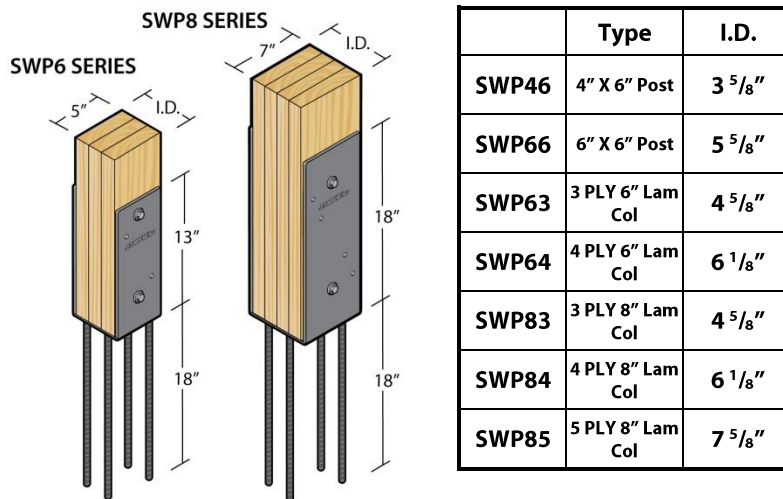
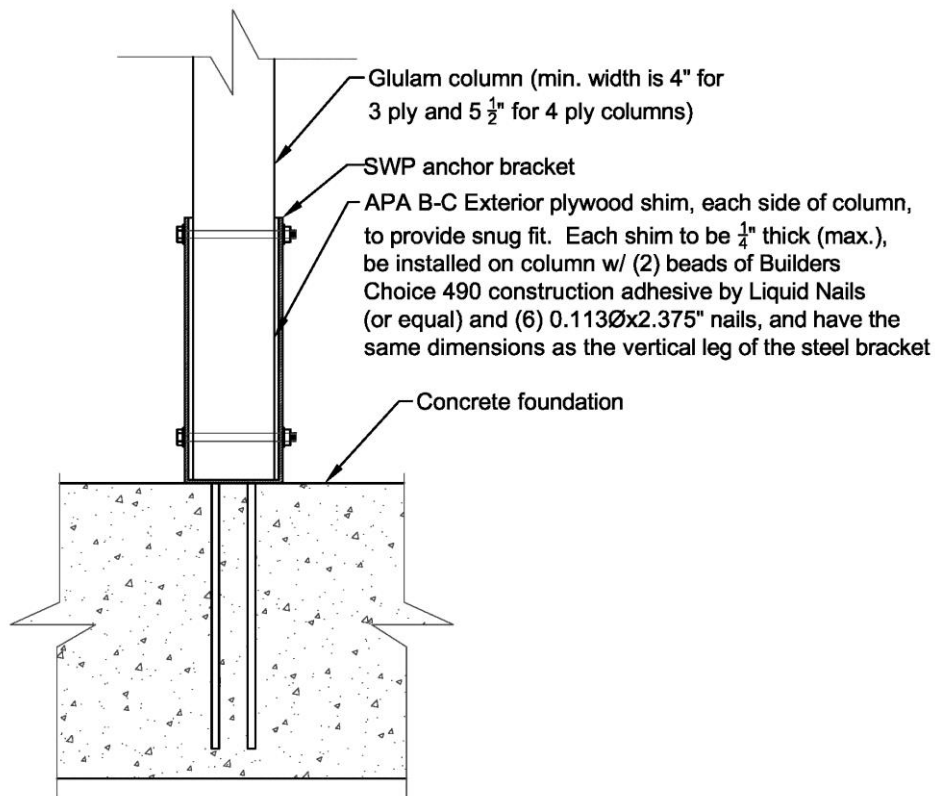

Figure 9.1: Sturdi-Wall Plus Descriptions
Figure 9.2: Sturdi-Wall Plus Shim Detail
Dimensions for the SWP46, SWP66, SWP63, SWP64, SWP83, SWP84, and SWP85 are given in Figure 9.1. The brackets are constructed with $\frac{1}{4}$ " structural steel plate with a minimum yield strength of 40 ksi, and $\frac{1}{4}$ " fillet welds of E70XX electrodes. Each assembled bracket has a proprietary powder coat finish. The SWP46 is to be used with a 4x6 wood post, SWP66 with a 6x6 wood post, SWP63 with a 3-ply 2x6 mechanically laminated column, SWP64 with a 4-ply 2x6 laminated column, SWP83 with a 3-ply 2x8 laminated column, SWP84 with a 4-ply 2x8 laminated column, and SWP85 with a 5-ply 2x8 laminated column or 8x8 wood post. The inside dimension of the brackets allow for an $\frac{1}{8}$ " total tolerance between the steel bracket and wood column. Glued laminated columns are acceptable; however, appropriately sized wood shims need to be added on both sides of the pocket to provide a snug fit as shown in Figure 9.2 ($\frac{1}{8}$ " total tolerance is acceptable). **The shim should be APA B-C Exterior plywood (or equivalent), no more than $\frac{1}{4}$ " thick, and have the same dimensions as the vertical leg of the bracket. The shim should be fastened to the column with 2 beads of Builders Choice 490 construction adhesive by Liquid Nails (or equal) and (6) 0.113"x2.375" nails.**